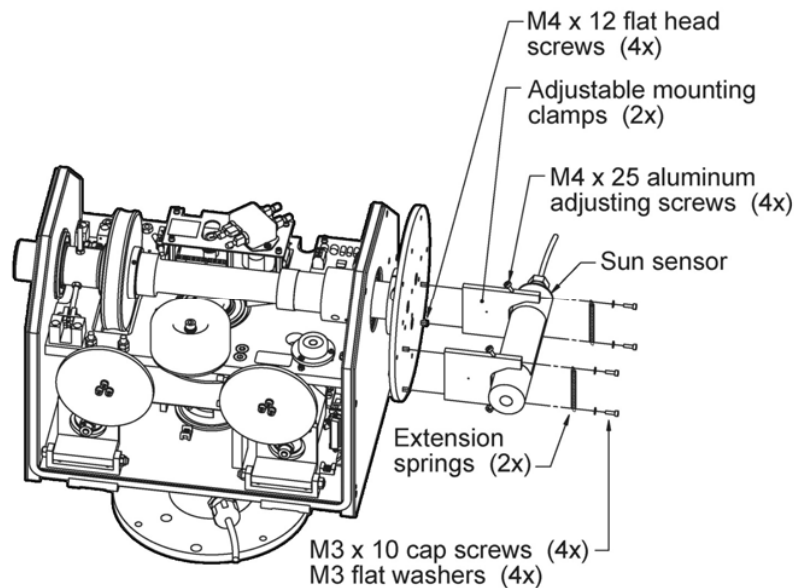

Figure 4.27: Attaching Sun Sensor with Adjustable Clamps.
Tip: *If a Sun Sensor is to be mounted on one of the Large Side Mounting Plates it will be easier to mount the special Sun Sensor Clamps with Adjustable Screws first, before mounting the Large Side Mounting Plate to the zenith shaft, see figure 4.27.*
- Instead attach the Adjustable Mounting Clamps supplied with the Sun Sensor Kit to the Side Plate with the designated screws in the same manner as the Pyrheliometer Clamps, see figure 4.27.